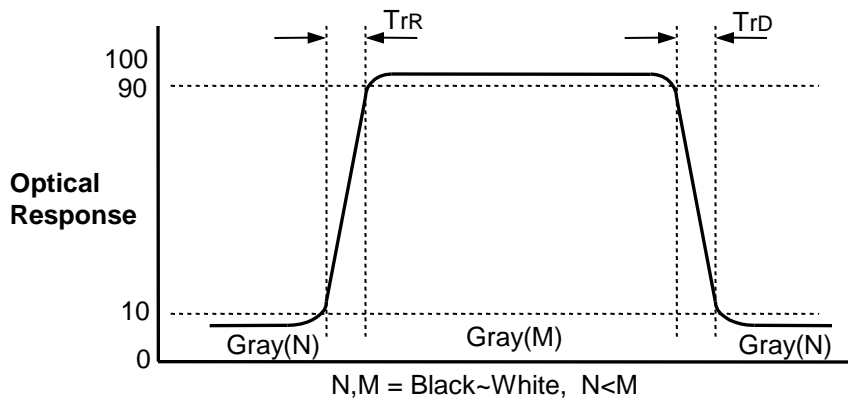

FIG. 3 Response Time
4. Response time is the time required for the display to transit from G(N) to G(M) (Rise Time,  $\text{Tr}_R$ ) and from G(M) to G(N) (Decay Time,  $\text{Tr}_D$ ). For additional information see the FIG. 3. ( $N < M$ )